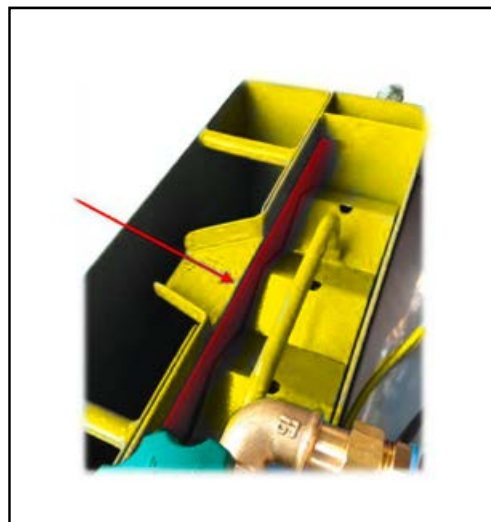

Figure 3: Filling level of cooling lubricant in oblique plate filter
8. During the silent part of the cycle (pump is off, polluted cooling lubricant is flowing from the receiver tank into the plate filter) adjust the control valve (8) such, that the clean cooling lubricant level is just at the spill (refer to Figure 3) and the tramp oil coming to the surface flows over the spill into the tramp oil collection container (3) - adjustment of the control valve can only be performed during the silent part of the process cycle.